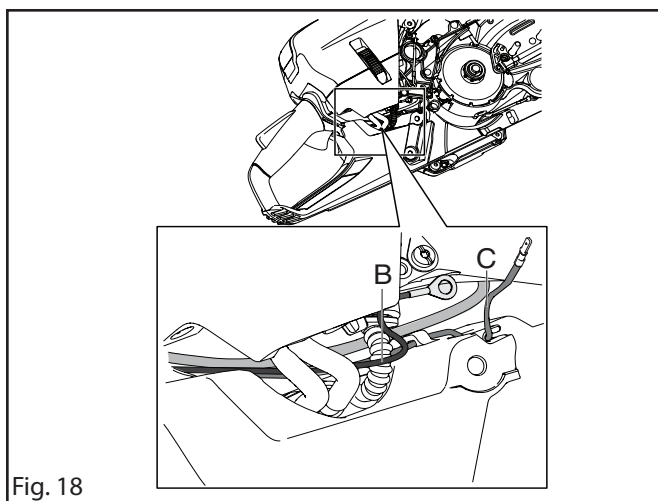

Fig. 18
- Fit the cable connections (B and C). See figure 18.